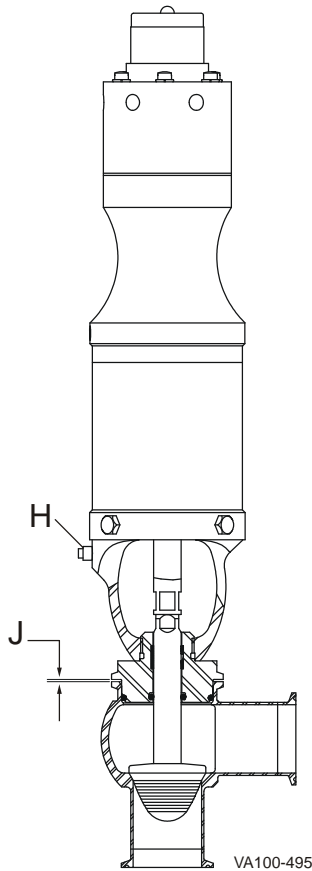

Figure 42 : Body to Adapter Gap
A zero adjustment is made to the Moore Positioner to provide proper seat compression. The zero-adjusting screw (Figure 43 and Figure 44, item C) is located under the top cover (item B) of the Moore Positioner. For air-to-raise units, air from the "valve" port (Figure 44, item F) is connected to the yoke air port, Figure 42, item H.
5. Turn the zero-adjusting screw counter-clockwise to extend the valve stem and achieve a $0.062" \pm 0.31"$ (1.575 ± 0.787 mm) dimension (Figure 42, item J).